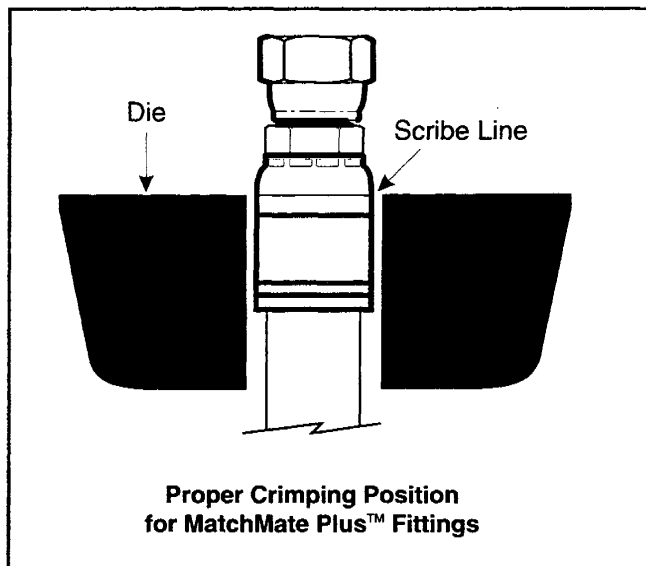

Figure 5
3. Position the fitting within the crimp cage according to the corresponding figure in the current Aeroquip Crimp Specifications bulletin. (A MatchMate Plus fitting is shown in figure 5).